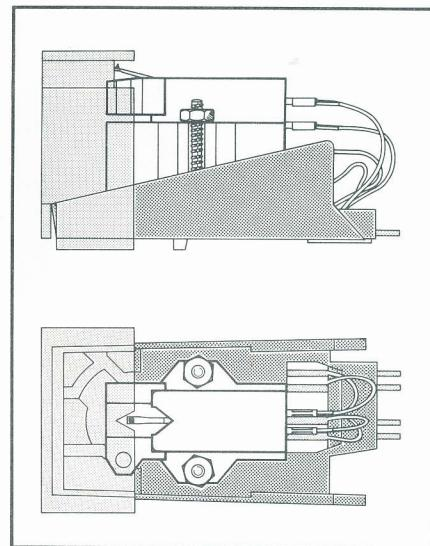

Fig. 14
2. Fasten the cartridge with the help of the accessories and jig supplied with the cartridge holder Dual TK 14 and the cartridge. Be sure it is located correctly.(Fig. 14).